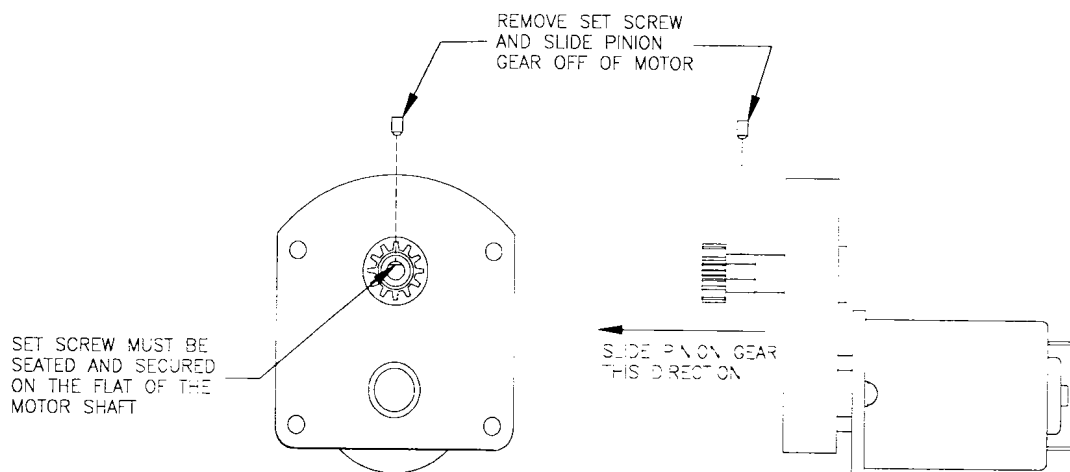

Fig. 7
- c. If replacing motor, be sure to remove pinion gear from the motor shaft and install it on the new motor shaft. (See Fig. 7) Apply Loctite to set-screw and use a .050 Hex Allen wrench to re-install. Do not over tighten, screw may strip.